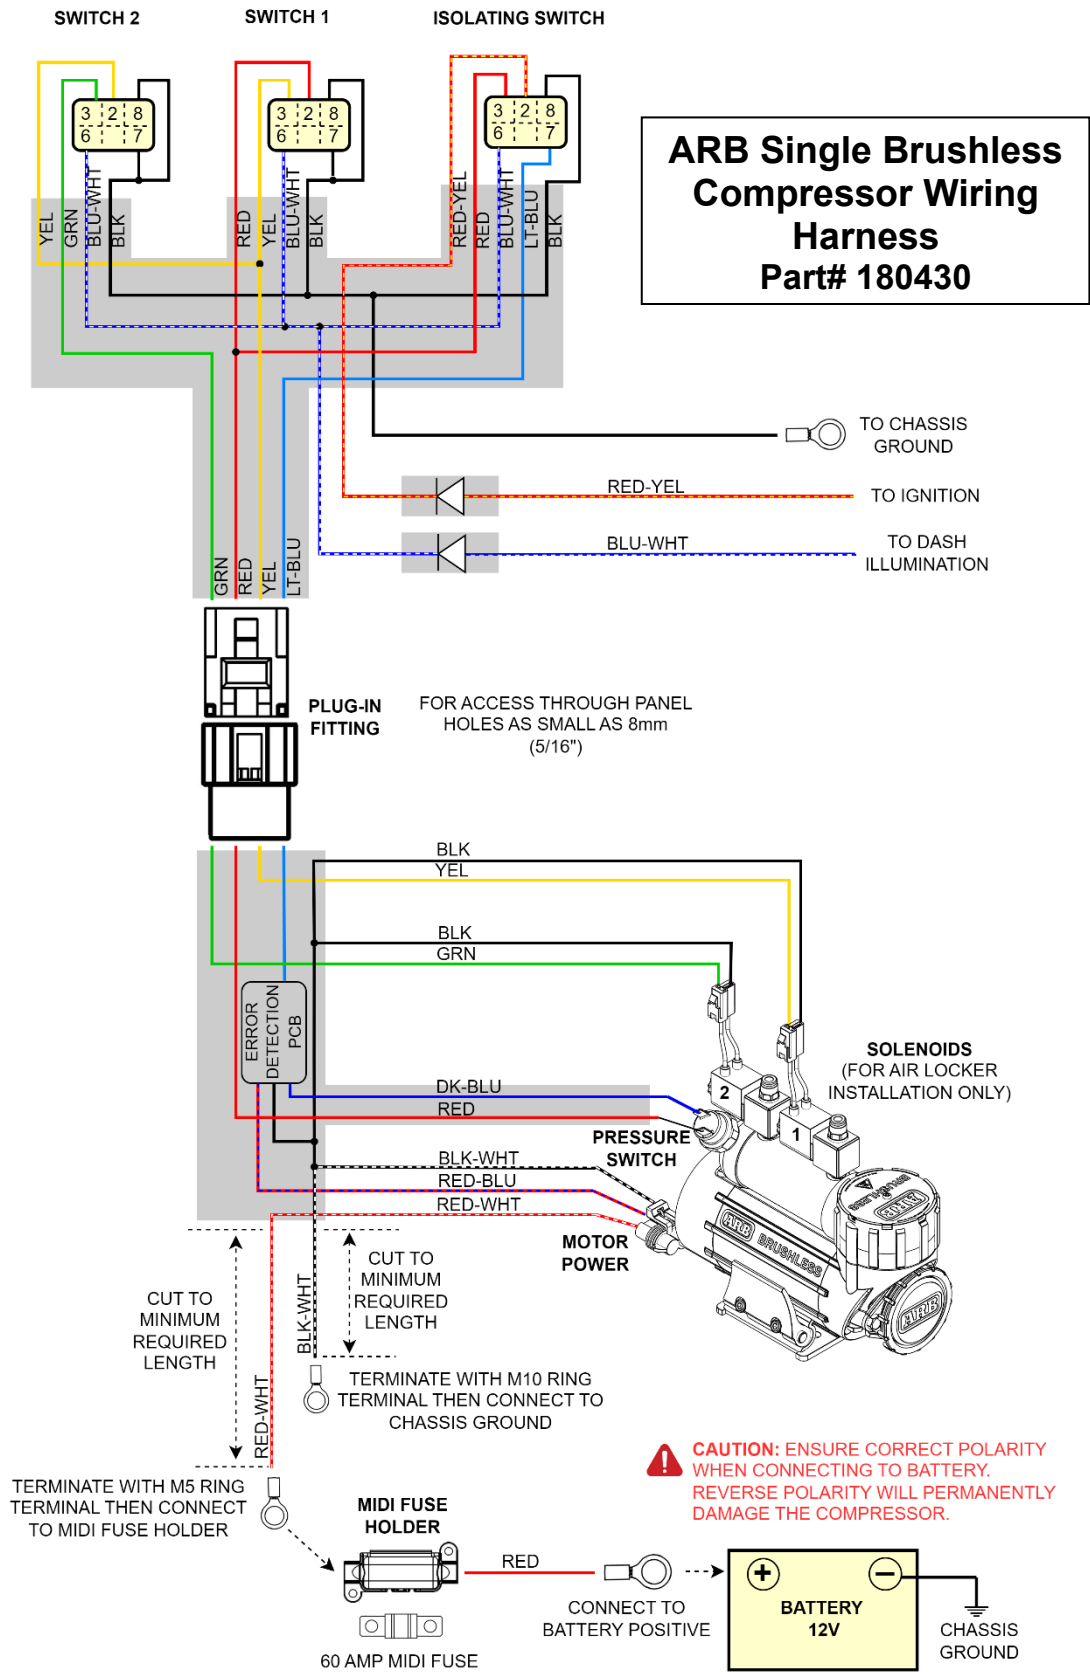
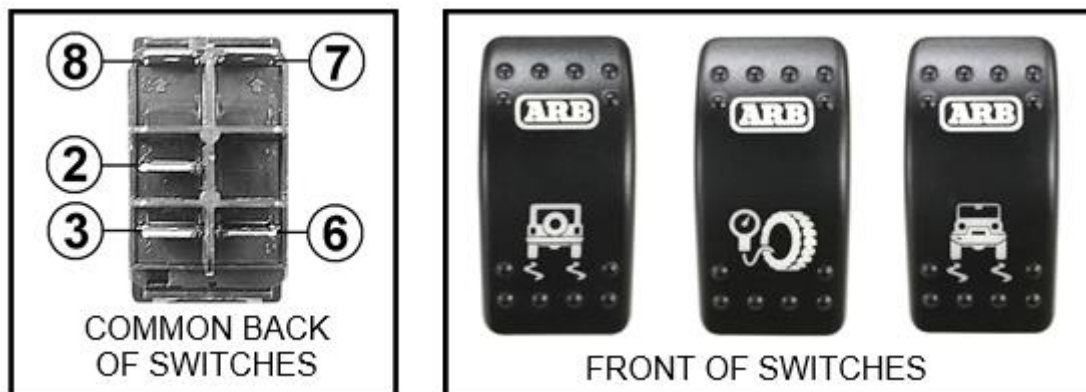

Figure 15. CKBLA12 Air Compressor wiring diagram (180430)
Figure 16. Switch terminal designations
Connect the Red, Red/Yellow, and Black wires in the same way as the original switch. Do not connect the Blue/White and Light Blue wires. These are connected to terminals six and seven on the original switch (see Figure 15).
- Consulting the wiring diagram (Figure 15) for wire colours, and the switch terminal illustration (Figure 16), plug each of the female spade terminals onto their appropriate switch terminal.